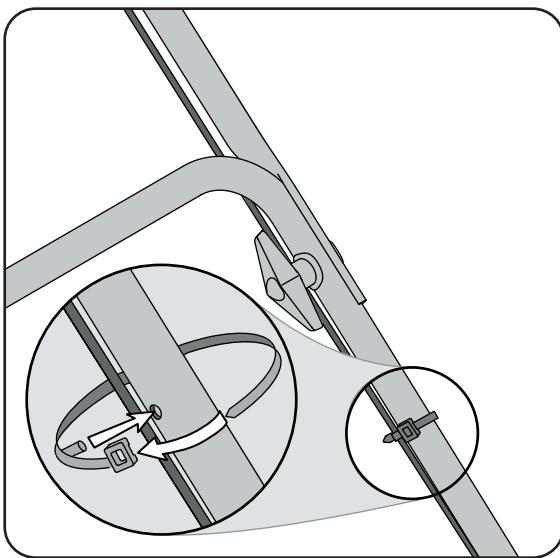

Figure 4
- Insert post on cable ties into holes provided on the lower handle. Pull cable tie tight and trim excess. See Figure 4.